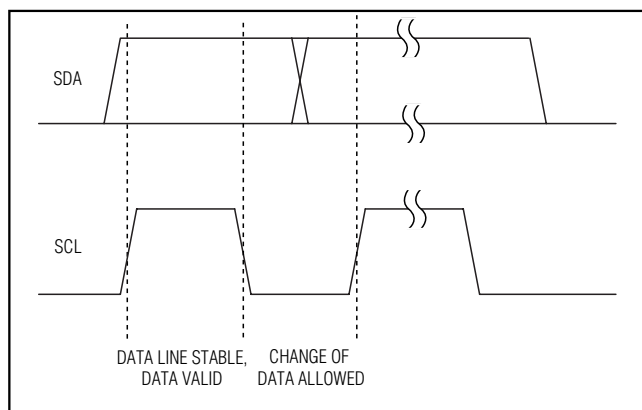
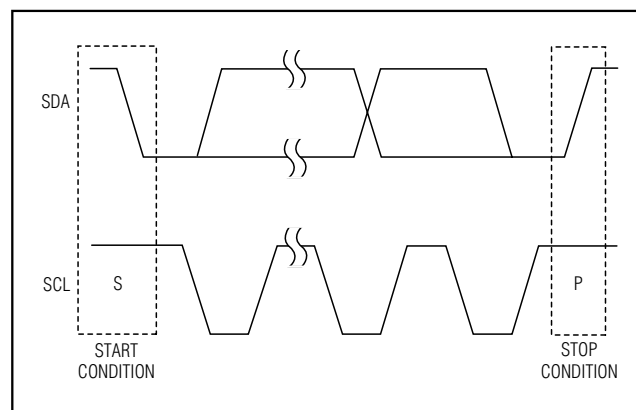

Figure 3. Bit Transfer
Figure 4. Start and Stop Conditions
Each clock pulse transfers one data bit. The data on SDA must remain stable while SCL is high (Figure 3), otherwise the MAX6874/MAX6875 register a START or STOP condition (Figure 4) from the master. SDA and SCL idle high when the bus is not busy.
Both SCL and SDA idle high when the bus is not busy. A master device signals the beginning of a transmission with a START (S) condition (Figure 4) by transitioning SDA from high to low while SCL is high. The master device issues a STOP (P) condition (Figure 4) by transitioning SDA from low to high while SCL is high. A STOP condition frees the bus for another transmission. The bus remains active if a REPEATED START condition is generated, such as in the block read protocol (see Figure 7).